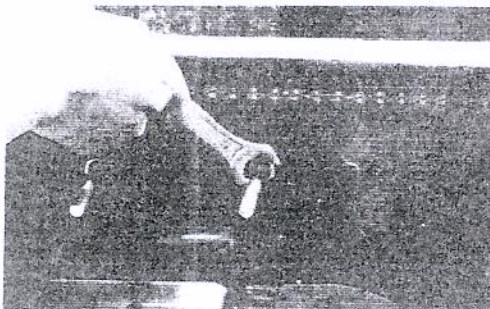

Fig. 16
3. Raise or lower the motor base by turning four nuts as shown in Fig.16, until correct belt tension is obtained.